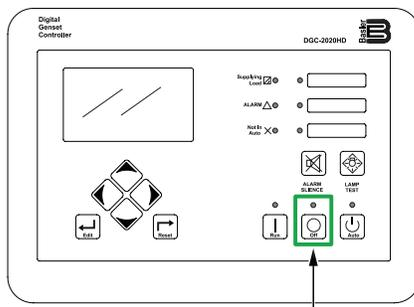

Figure 49. Digital Controller (OFF Button)
3. Press the **OFF button** on the digital controller (Figure 49) to stop the engine. The engine will stop after a 1-minute cool-down process.
Press the **OFF button** on the digital controller (Figure 49). The circuit breaker will automatically turn **OFF** and the engine will stop after a 1-minute cool-down process.
2. After the engine has completely stopped, press the **OFF button** on the digital controller (Figure 49) and place the **Control Power switch** in the **OFF** position (Figure 50).